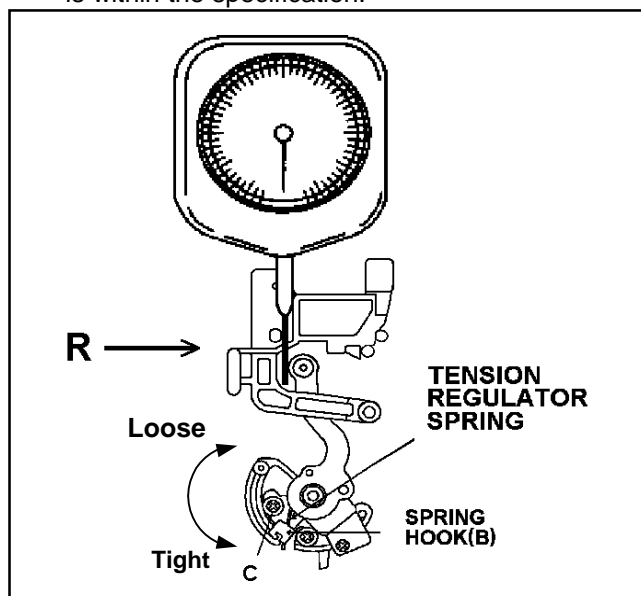

Figure 4-6
3. Push the tension post to the direction R by the tension gauge as shown in Figure 4-6 until the voltage at the test point becomes 3.8V (If means PLAY position).
4. Loosen the screw (C) and adjust the position of hook (B) so that the indication (tension) of gauge is within the specification.